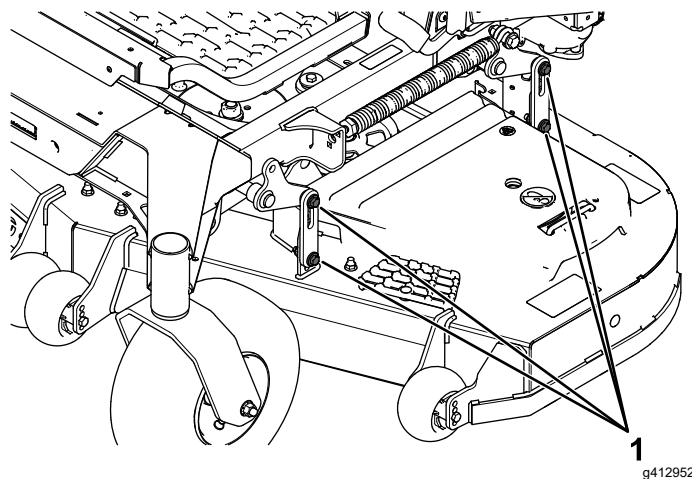

Figure 105
16. Loosen the bolts (Figure 105) on all 4 corners and ensure that the mower deck is sitting securely on all 4 blocks.